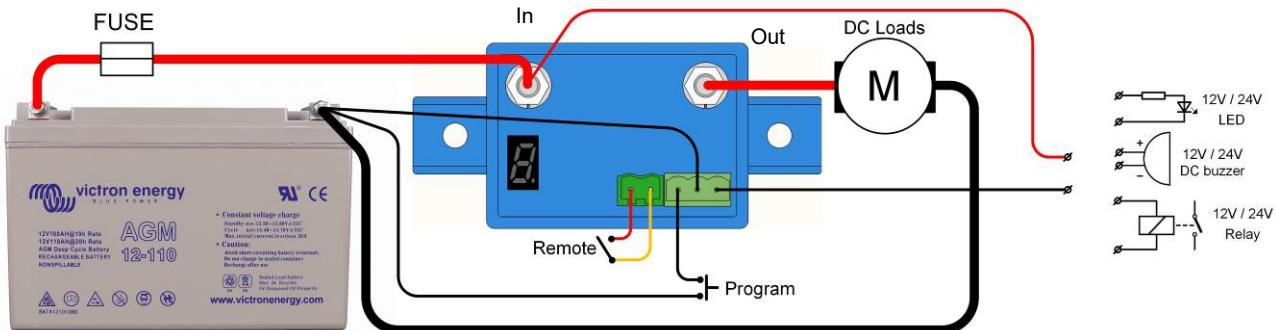

Figure 1: Connection diagram of the BP-65
1. The BatteryProtect (BP) must be installed in a well-ventilated area and preferably close (max 50 cm) to the battery (but, due to possible corrosive gasses not above the battery!). **Voltage drops over a long or undersized cable between the battery plus and the BP may result in a short circuit alarm when starting-up the load, or unexpected shutdown.**
8. A remote on-off switch can be connected to the two pole connector (see figure 1) or between pin 2-1 of the two pole connector and the battery plus.
9. A buzzer, LED or relay can be connected between the alarm output and the battery plus (see figure 1). Maximum load on the alarm output: 50 mA (short circuit proof).